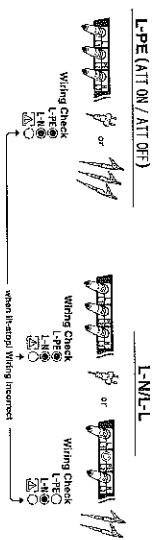

Fig. 7-6
- (1) Operate the Power switch and turn on the instrument. (Press the Power switch for at least 1 sec.)
- (2) Insert the Test Lead into the instrument. (Fig. 7-6)
After the connection, ensure that the symbols for Wiring check on the LCD are in the status indicated in Fig. 7-6 before pressing the test switch. If the status of the symbols for Wiring check differ from Fig. 7-6